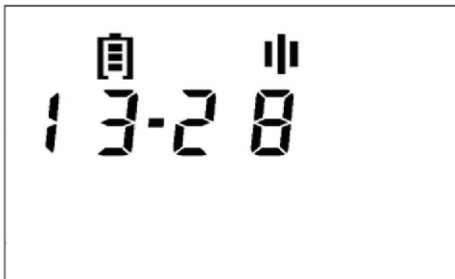

Fig.1
- In the numeric line the current time (hours and minutes), the separator blinks at a 2-second interval. (Fig. 1)